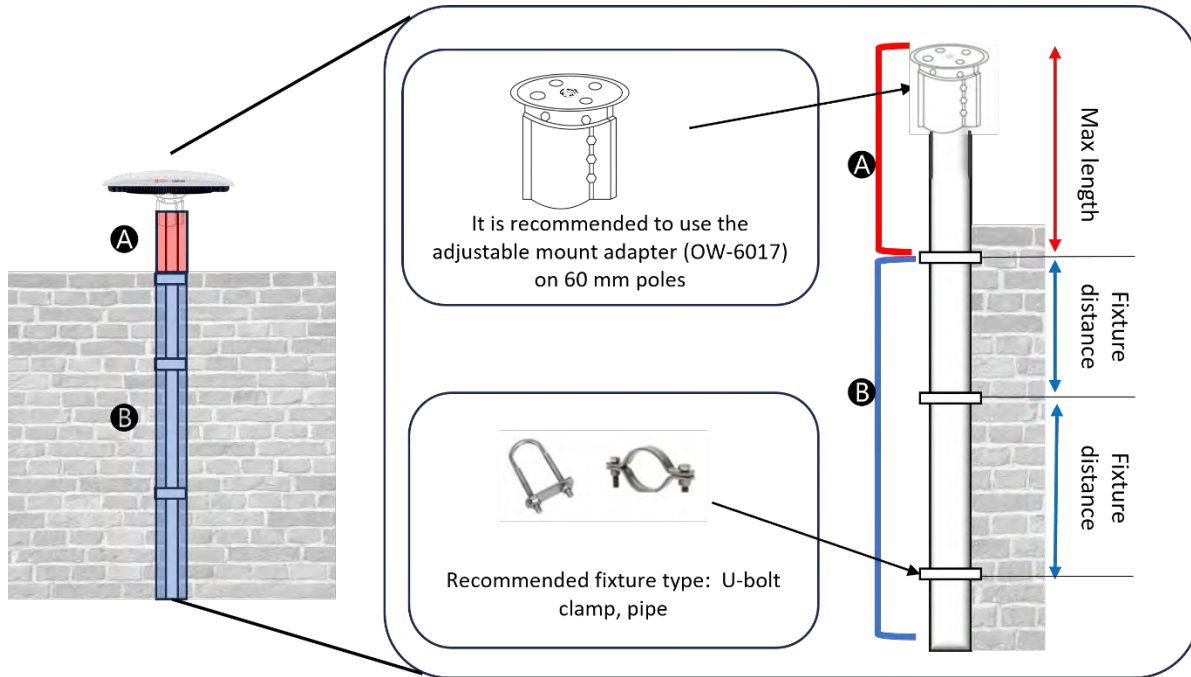

Figure 107: Customized Pole Mount Details
- There are no **B** pole length limits but it must be installed on a place of sufficient structural integrity to prevent any flex, vibration and sway from such wind or external force. The **B** pole can be used as a thicker pole type than the **A** pole. The fixtures should be installed at recommended intervals (see the Fixture Distance from Figure 107: Customized Pole Mount Details). Recommended fixture types are a U-bolt and a pipe clamp.